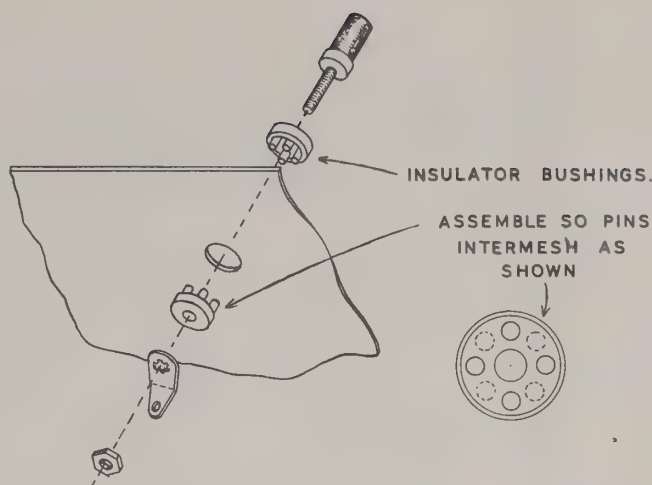

Figure 6
- (✓) Install the four binding posts on the front panel as shown using binding post base, insulators, solder lugs and 6-32 nuts. See Figure 6 and Pictorial 1.